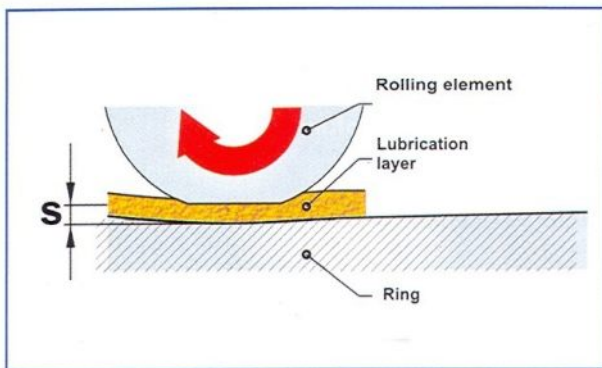

Figure 1. The lubricant film separates the metal parts of a bearing.
The most significant function of any lubricant is to separate the metallic surfaces in the 'load zone'. As shown in Figure 1, optimum separation in rolling bearings is achieved when the thickness (S) of the lubricating film that builds up in the contact area between the rolling element surface and the bearing rings is large enough to separate them completely. In most applications only an incomplete separation, the so-called 'mixed' lubrication, is achieved.